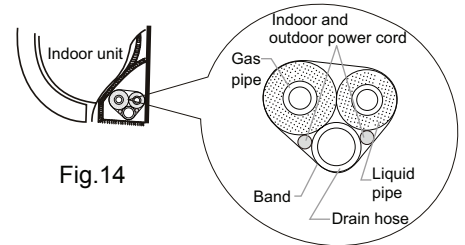

Fig. 14
- (1) Bind up the connection pipe, power cord and drain hose with the band. (As show in Fig.14)